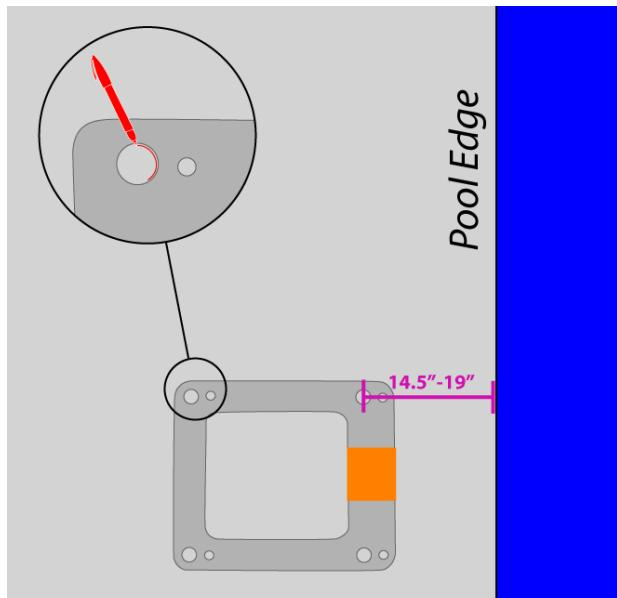

FIGURE 2
1. Mark the 4 hole locations on your deck using the larger holes of the anchor jig plate as a template. For ADA compliance, confirm the center of the jig plate front holes are 14.5 to 19 inches from the pool's edge. SEE FIGURE 2